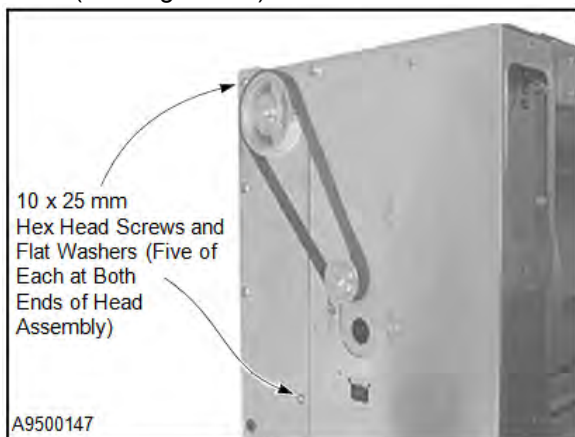

Figure 23
5. Inspect the hex head screws used to secure the head assembly to the side columns. Replace any missing or damaged hardware. (See Figure 23.)